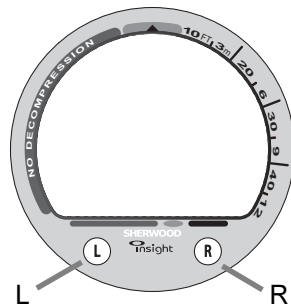

Fig. 1 - Control Buttons
The Insight is a unique dive computer with interactive controls that allow you to select various display options and access specific information when you choose to see it. These are referred to as the **L (LEFT) (L)** and **R (RIGHT) (R)** buttons (Fig. 1).